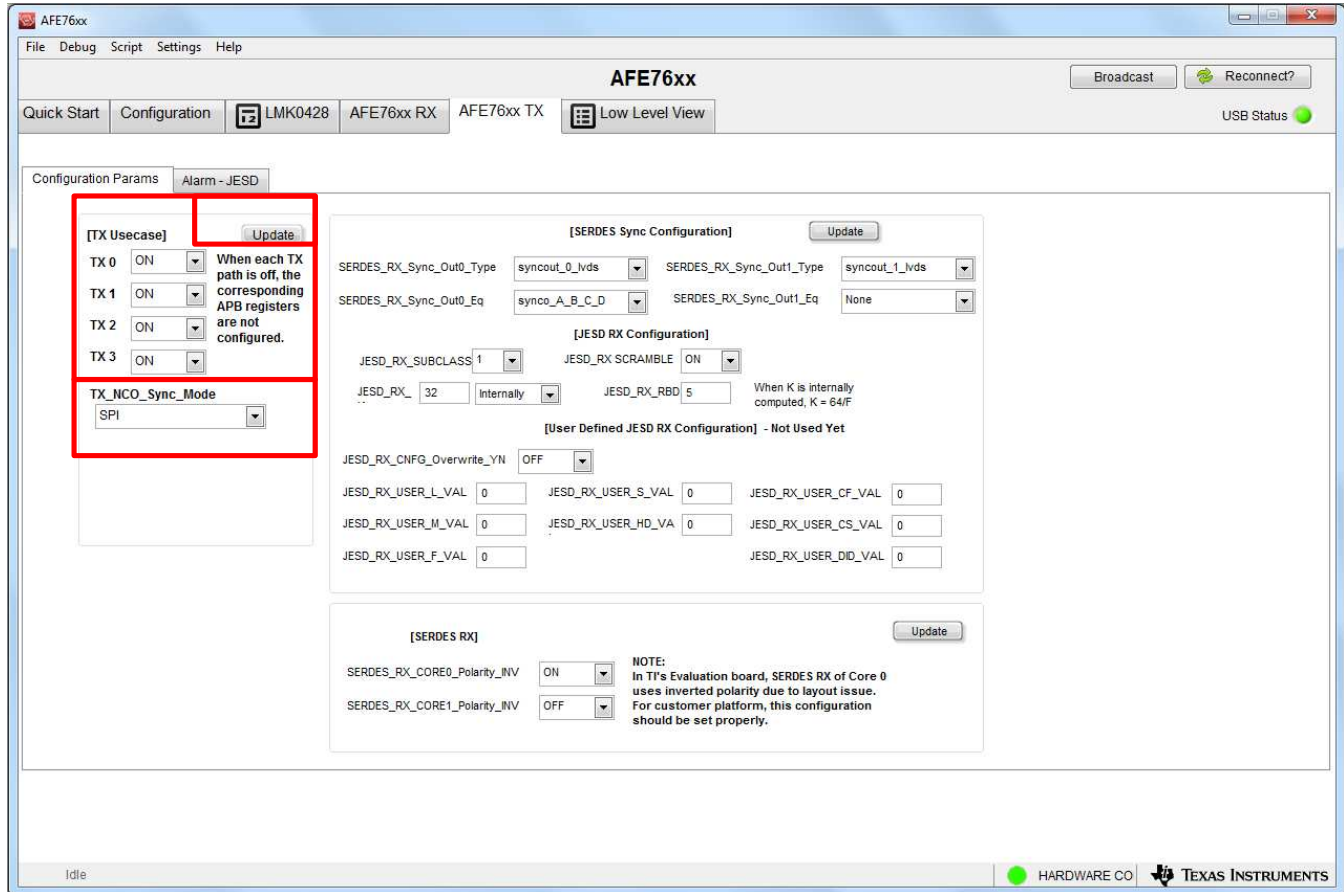

Figure 10. AFE76xx GUI TX Setup
9. Go to the AFE76xx TX tab (see Figure 10).